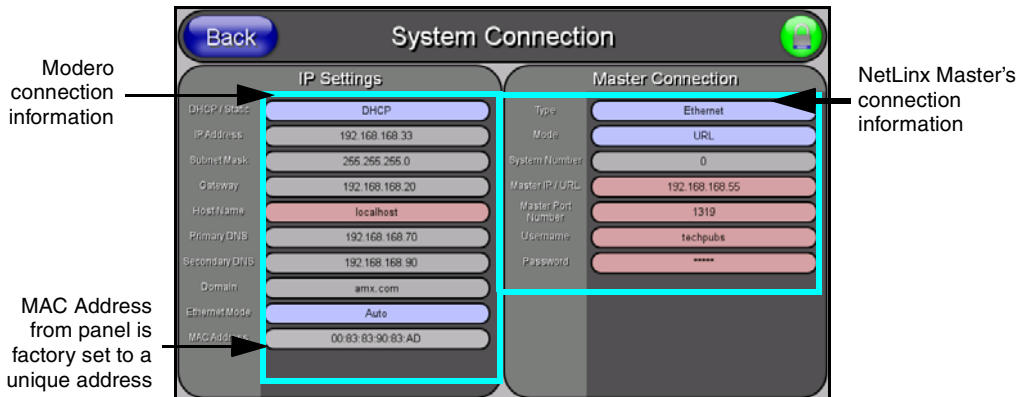

FIG. 32 System Connection page
11. Press the **System Connection** button (located on the Protected Setup page) to open the System Connection page (FIG. 32) and begin configuring the communication settings on the panel to match those of the target Master.